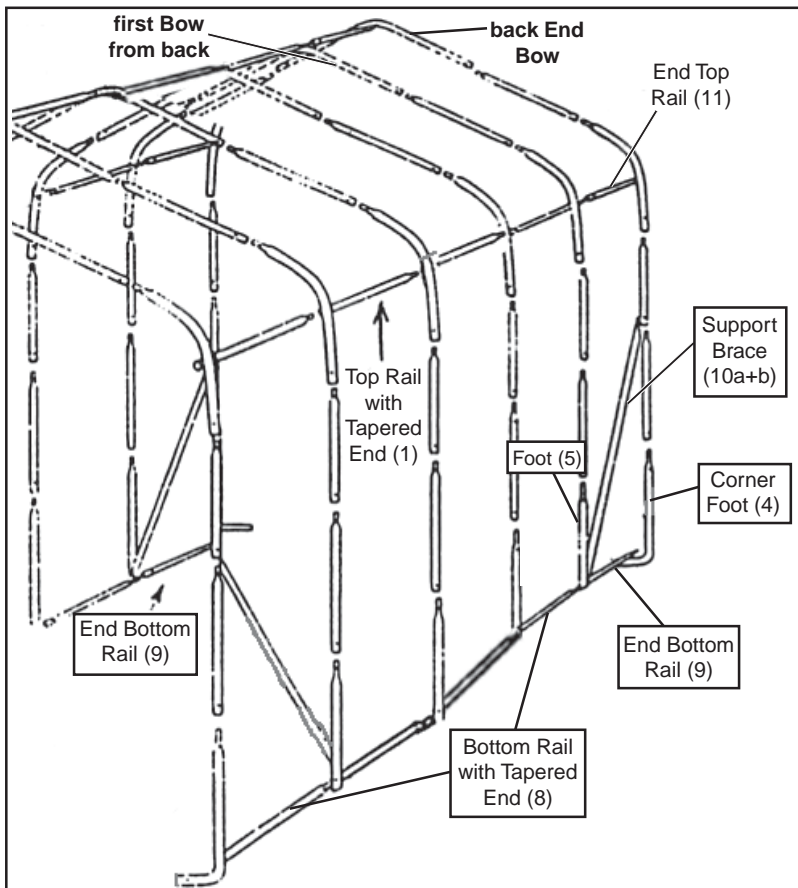

Figure 4
1. At the base of the back End Bow, fit (9) to (4). Attach (10a+b) to the center of the last End Bow. Use Bolts (13), Washer (17), and Nuts (16). Repeat on the other side of the End Bow. Do not completely tighten at this time because minor frame adjustments will be done later.
2. At the base of the first Bow in from the end, attach (9) to the base of (5). Swing the end of (10a+b) over to the connection of (5) and the end of (8). The tapered end of (8) fits into (9). Use Bolts (13), Washers (17), and Nuts (16). Do not completely tighten at this time because minor frame adjustments will be done later. Repeat these steps on the opposite end of the End Bow. Continue assembling (8) between all of Middle Bows until the final Middle Bow, using the hardware (14), (16). **See Figure 4.**